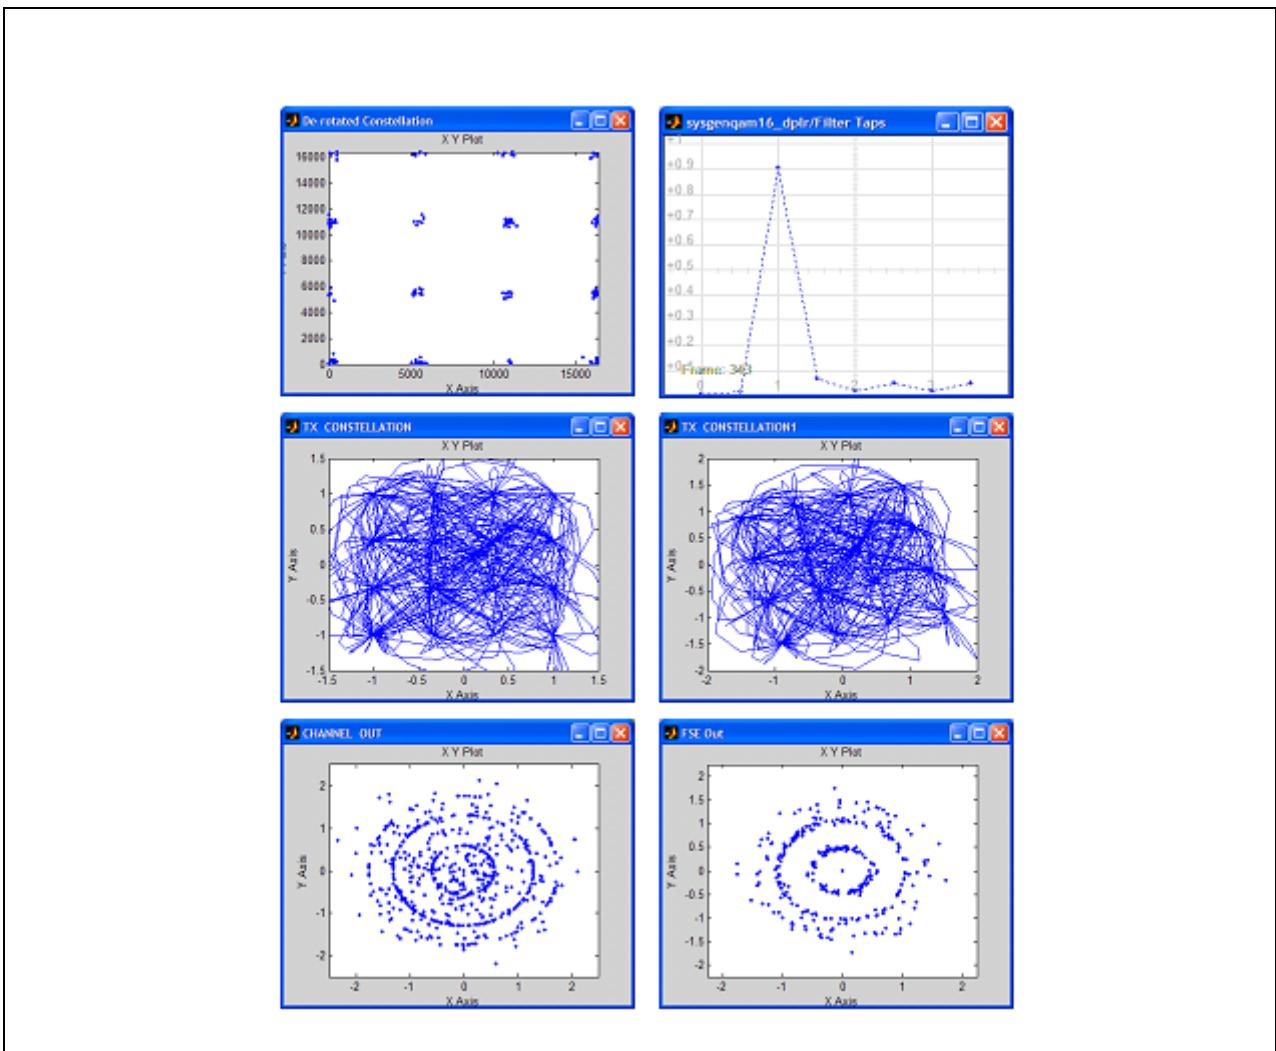

Figure 112: Simulink Simulation Output
3. Simulate the model by clicking on the 'Start simulation' icon shown right. At this point, without modifying the model, you should be able to see the plots shown in Figure 112 on page 194.